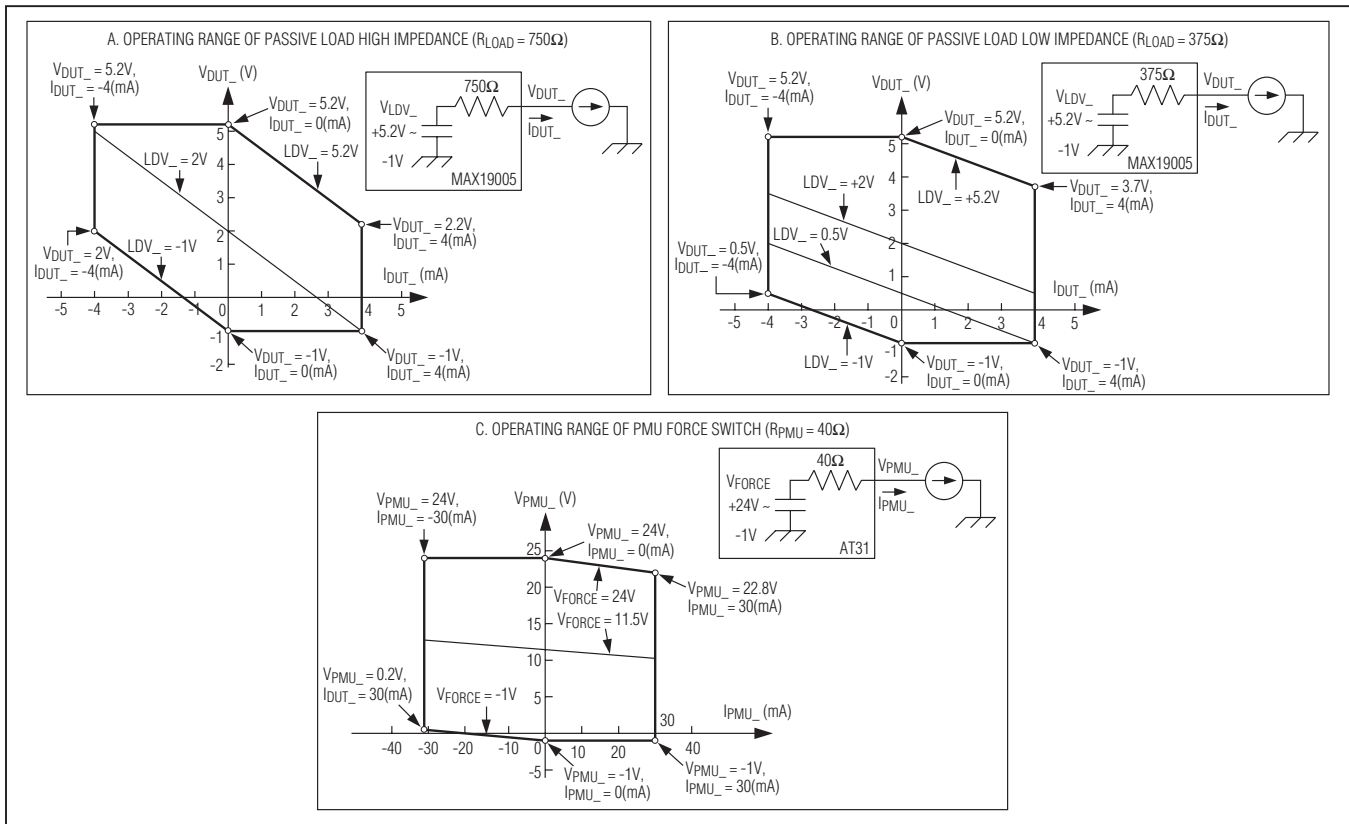

Figure 1. Operating Ranges
- Note 8:** At this pulse width, the output reaches at least 90% of its nominal (DC) amplitude. The pulse width is measured at $DATA_$.
- Note 13:** Operating output voltage/current range of passive load and PMU force switch at +24.6V supply. See Figure 1.